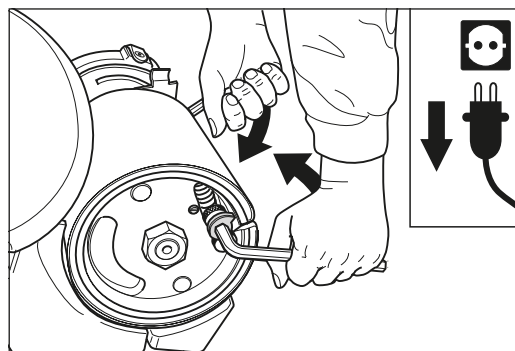

Fig. 31 Use the two hexagonal socket wrenches (size 10 mm) to open the paper clamping fixture.
- 7 Insert the correct hexagonal socket wrench (size 10 mm) in the clamping bolts at the side. Open the paper clamping fixture by pulling the hexagonal socket wrench upwards with your left hand and pushing the other hexagonal socket wrench downwards with your right hand (fig. 31).